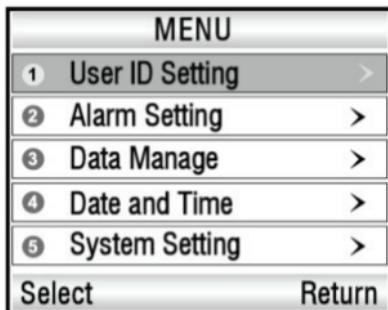

Fig.4-1
- 1) Press the power switch for 3 seconds to power on the oximeter and then press the menu button to enter the main menu, refer to the fig.4-1.